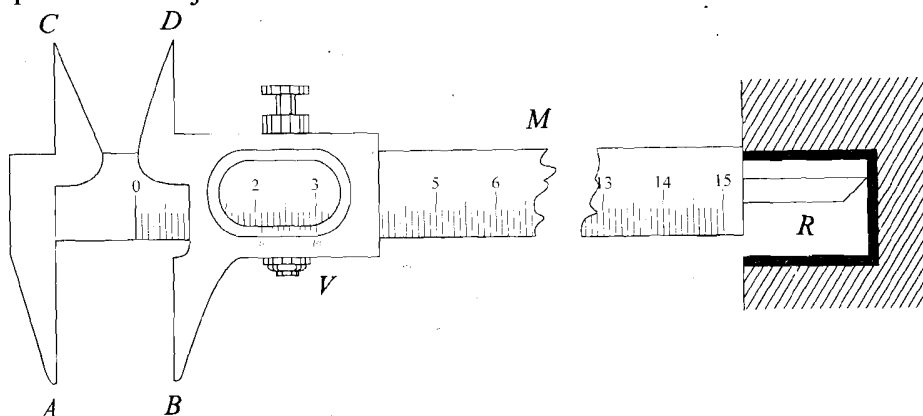

Fig.3.1: A vernier callipers
Refer to Fig.3.1. It depicts a vernier callipers, which is named after its inventor Vernier. The instrument, made of steel, consists of a fixed scale (M) called the **main scale** (MS), which is graduated into centimetres and millimetres, and a pair of jaws A and B . Jaw A is fixed to the main scale and the jaw B can slide over it. Moreover, jaw B has a subsidiary scale V , called the **vernier scale** (VS), which can slide along the main scale. These scales have distinctly visible graduations. The main scale can be used to measure lengths in the range 0–15 cm. The object whose length is to be determined is placed close-fitted in the gap between the jaws A and B .
If you look at the inset in Fig.3.1, you will note that the value of 10 VSD is equal to the value of 9 MSD. Therefore, we can say that 1 VSD = (9/10) MSD. Hence we can write the expression for least count as